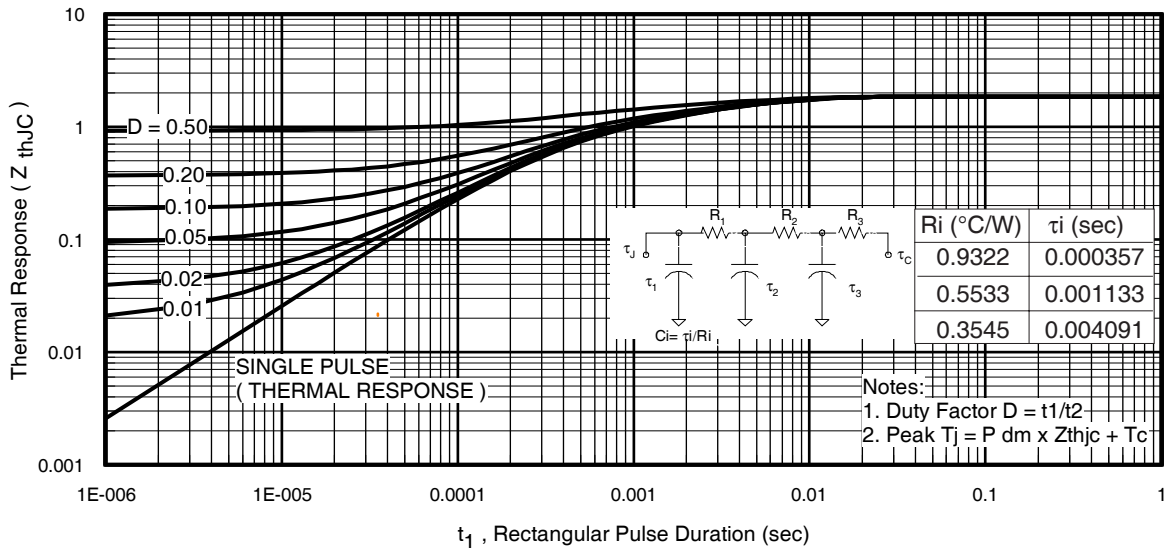
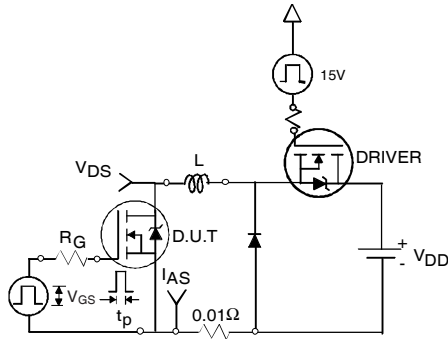

Fig 11. Maximum Effective Transient Thermal Impedance, Junction-to-Case
Fig 12a. Unclamped Inductive Test Circuit
- ① Repetitive rating; pulse width limited by max. junction temperature. (See fig. 11).
- ② Limited by T_{Jmax} ; starting $T_J = 25^\circ\text{C}$, $L = 0.13\text{mH}$, $R_G = 25\Omega$, $I_{AS} = 31A$, $V_{GS} = 10V$. Part not recommended for use above this value.
- ③ $I_{SD} \leq 31A$, $di/dt \leq 1070A/\mu s$, $V_{DD} \leq V_{(BR)DSS}$, $T_J \leq 175^\circ\text{C}$.
- ④ Pulse width $\leq 1.0\text{ms}$; duty cycle $\leq 2\%$.
- ⑤ $C_{oss \text{ eff.}}$ is a fixed capacitance that gives the same charging time as C_{oss} while V_{DS} is rising from 0 to 80% V_{DSS} .
- ⑥ Limited by T_{Jmax} , see Fig. 12a, 12b, 15, 16 for typical repetitive avalanche performance.
- ⑦ This value determined from sample failure population. 100% tested to this value in production.
- ⑧ This is applied to D²Pak, when mounted on 1" square PCB (FR-4 or G-10 Material). For recommended footprint and soldering techniques refer to application note #AN-994.
3. Equation below based on circuit and waveforms shown in Figures 12a, 12b.
$Z_{thJC}(D, t_{av})$ = Transient thermal resistance, see figure 11)